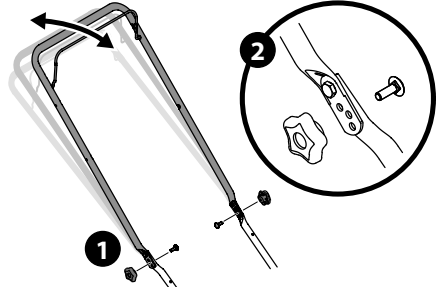

Figure 18
1. Remove wing nuts and carriage bolts from handle (Figure 18).
2. Position the handle in one of the three positions that is most comfortable (Inset Figure 18).